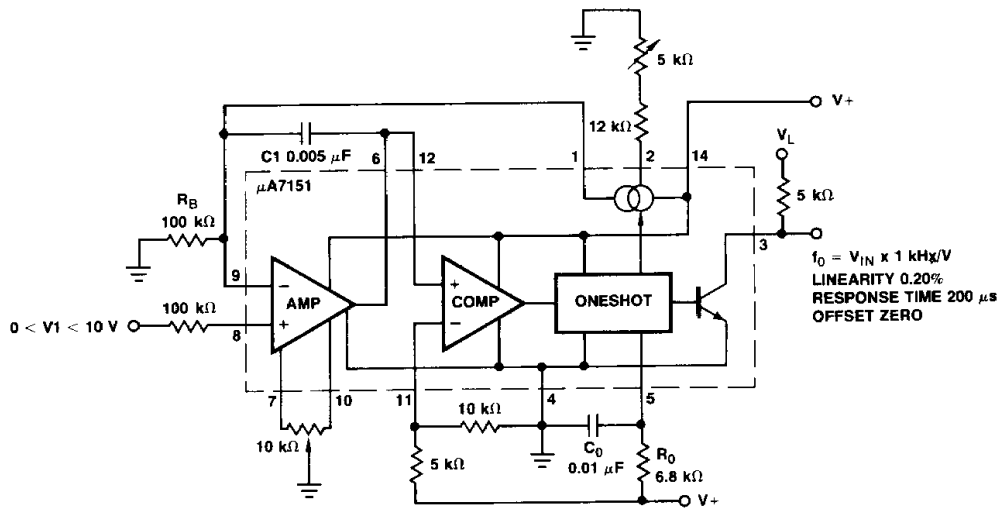

Fig. 3
5. C_1 for Figures 3 and 4 can be selected depending on the output frequency. The smaller C_1 is the faster the system response will be. C_1 must be large enough to limit the amplifier swing. The op amp will swing a voltage set by $I_0 T_0/C_1$, so if the comparator is biased at $2/3 V_{CC+}$ this constrains $C_1 > 3 I_0 T_0/2 V_{CC+}$. A nominal value of $C_1 = 5 \times 10^{-5}/f_0$ meets this requirement.